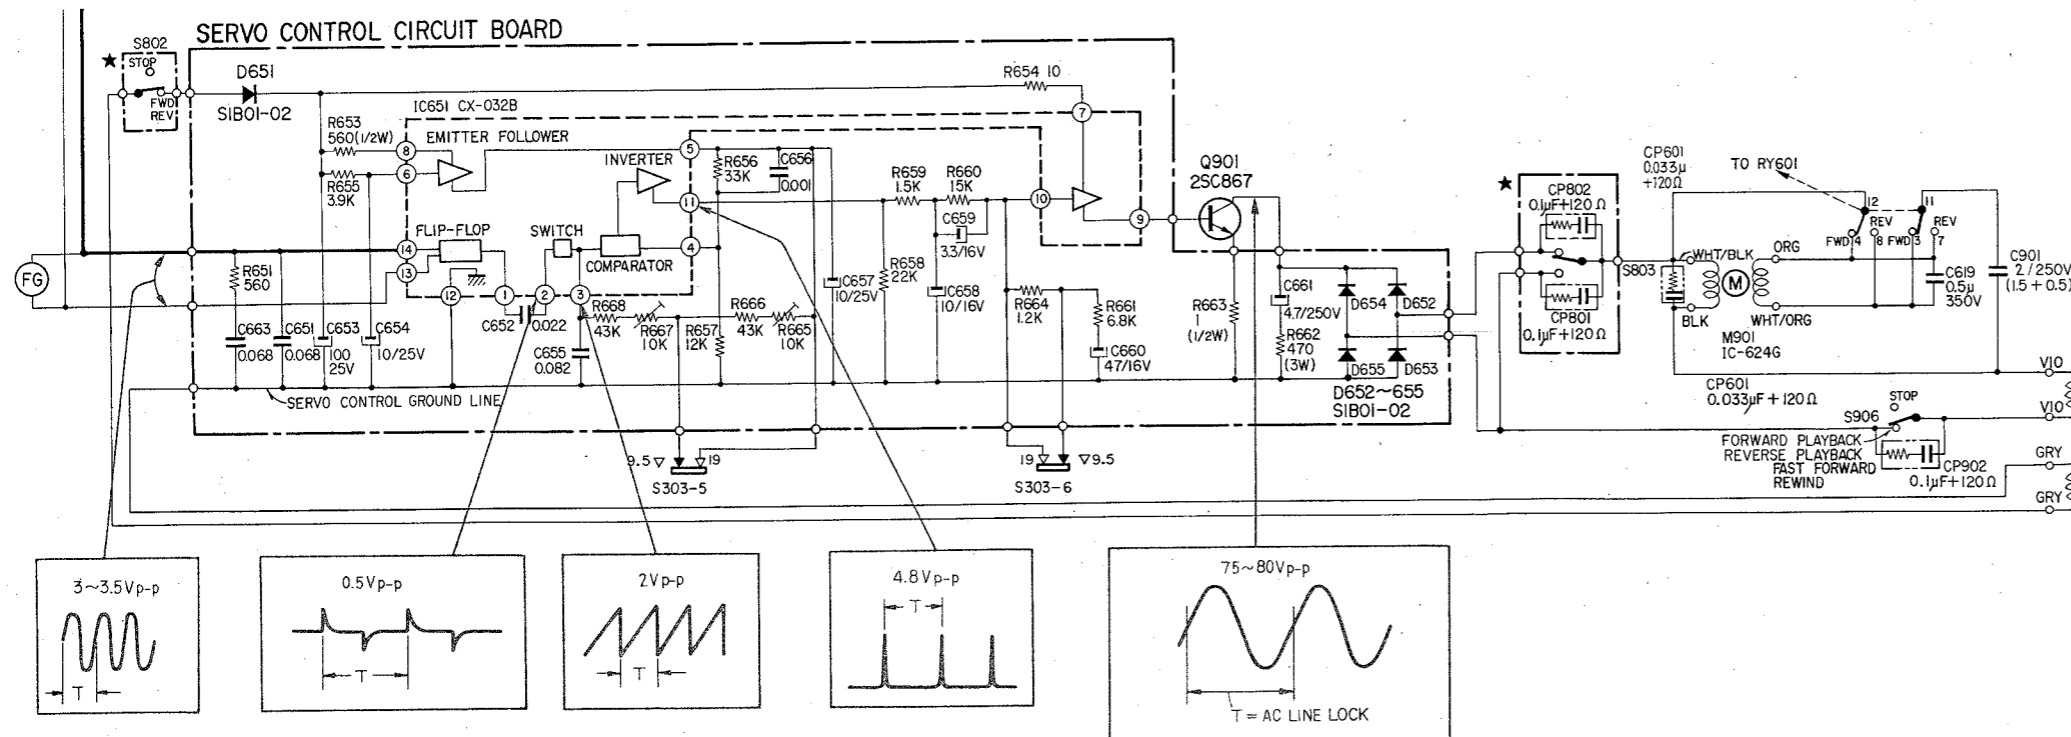

Fig. 1. Servo control circuit
quency generator) output is applied to pins ⑬ and ⑭ of IC651 and 7 Vp-p square wave is obtained at pin ① through the internal flip-flop as shown in Fig. 1. C652 differentiates the square wave. The positive-going halves of the resultant pulse keys the internal switch. C655(CT) is charged by supply voltage through R665, R666, R667 and R668(RT). Across C652, leading portion of sawtooth wave is obtained. By discharging the sawtooth wave with the internal switch keyed by the above-mentioned positive pulse, 2 Vp-p sawtooth wave is obtained at pin ③. This sawtooth wave is applied to one end of the internal comparator. When the sawtooth wave reaches to the constant comparator voltage which is applied to pin ④, negative-going pulse is obtained from the comparator output and 4.8 Vp-p positive pulse is